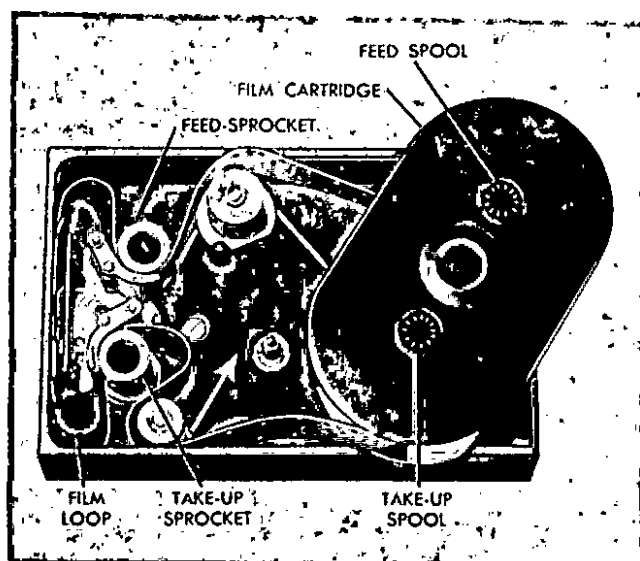

Figure 1-10. Threading Film through Magazine
c. Pull approximately one foot of film from the feed spool of the cartridge. Place the cartridge diagonally across the magazine as shown in figure 1-10, and insert the film between the pressure plate and magazine aperture. Film must be aligned in milled slot of magazine and pressure plate must be down below guide rail at front of magazine.